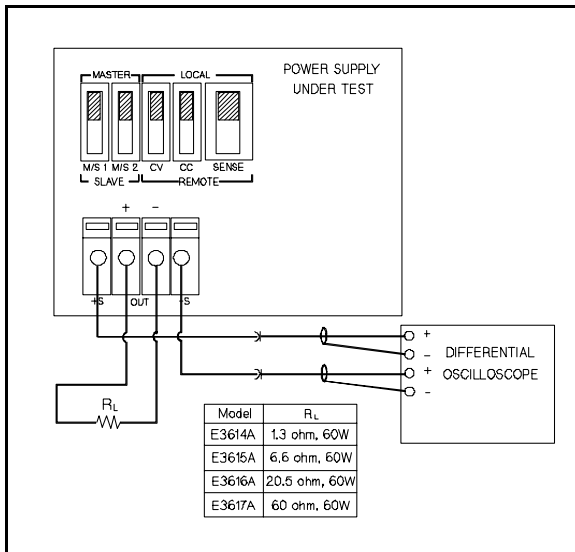

Figure A-7. CV PARD Peak-to-Peck Measurement Test Setup
- Connect the test equipment as shown in Figure A-7.